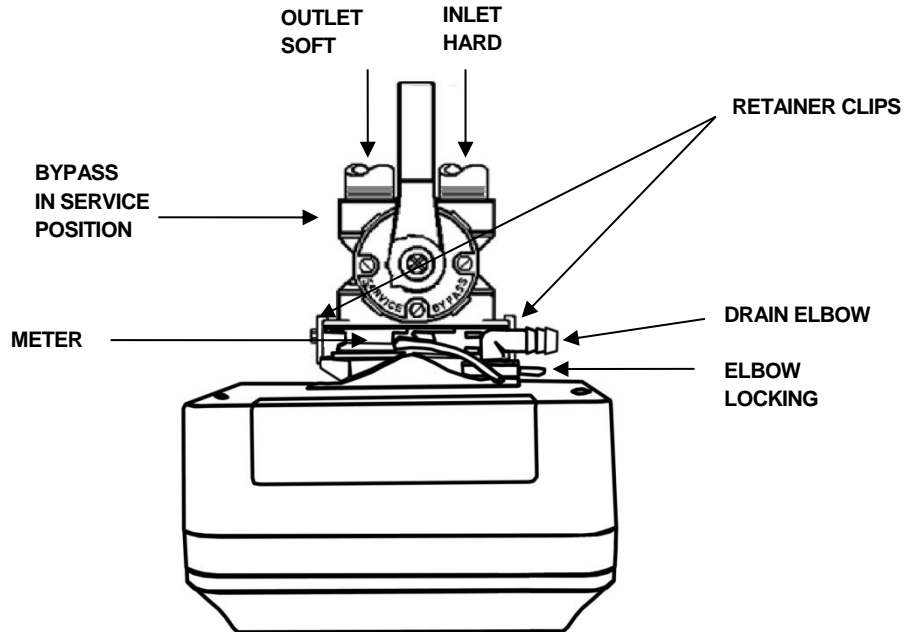

FIGURE 2: Top View of Control Valve
- STEP 2:** If applicable, use clips and screws provided and attach bypass valve to the inlet/outlet of the control valve. See figure 2 below.